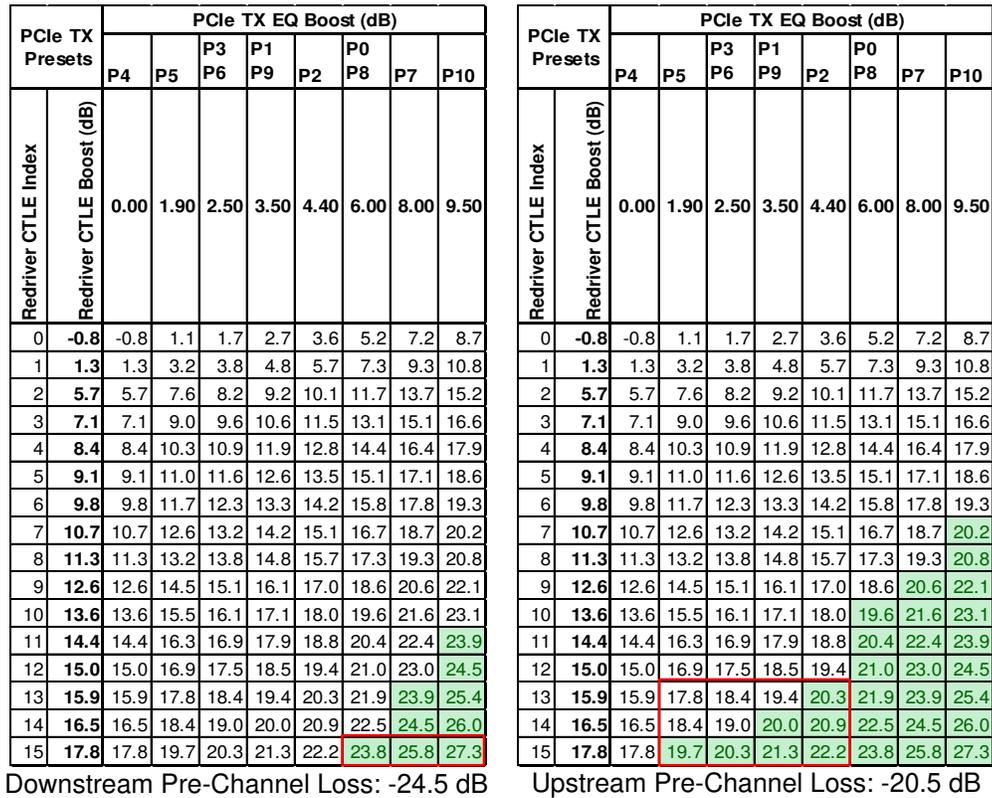

Figure 6-2. Possible Redriver CTLE Settings for the Downstream and Upstream Pre-Channels
- Downstream redrivers: With the -24.5 dB of the downstream pre-channel loss and using the two-dimensional array exemplified in Figure 6-2, the CTLE index 15 looks as an optimal setting that should work well with most PCIe TX presets.
- Upstream redrivers: With the -20.5 dB of the upstream pre-channel loss and using the two-dimensional array exemplified in Figure 6-2, the CTLE index 15 also looks as an optimal setting that should work best with most PCIe TX presets.